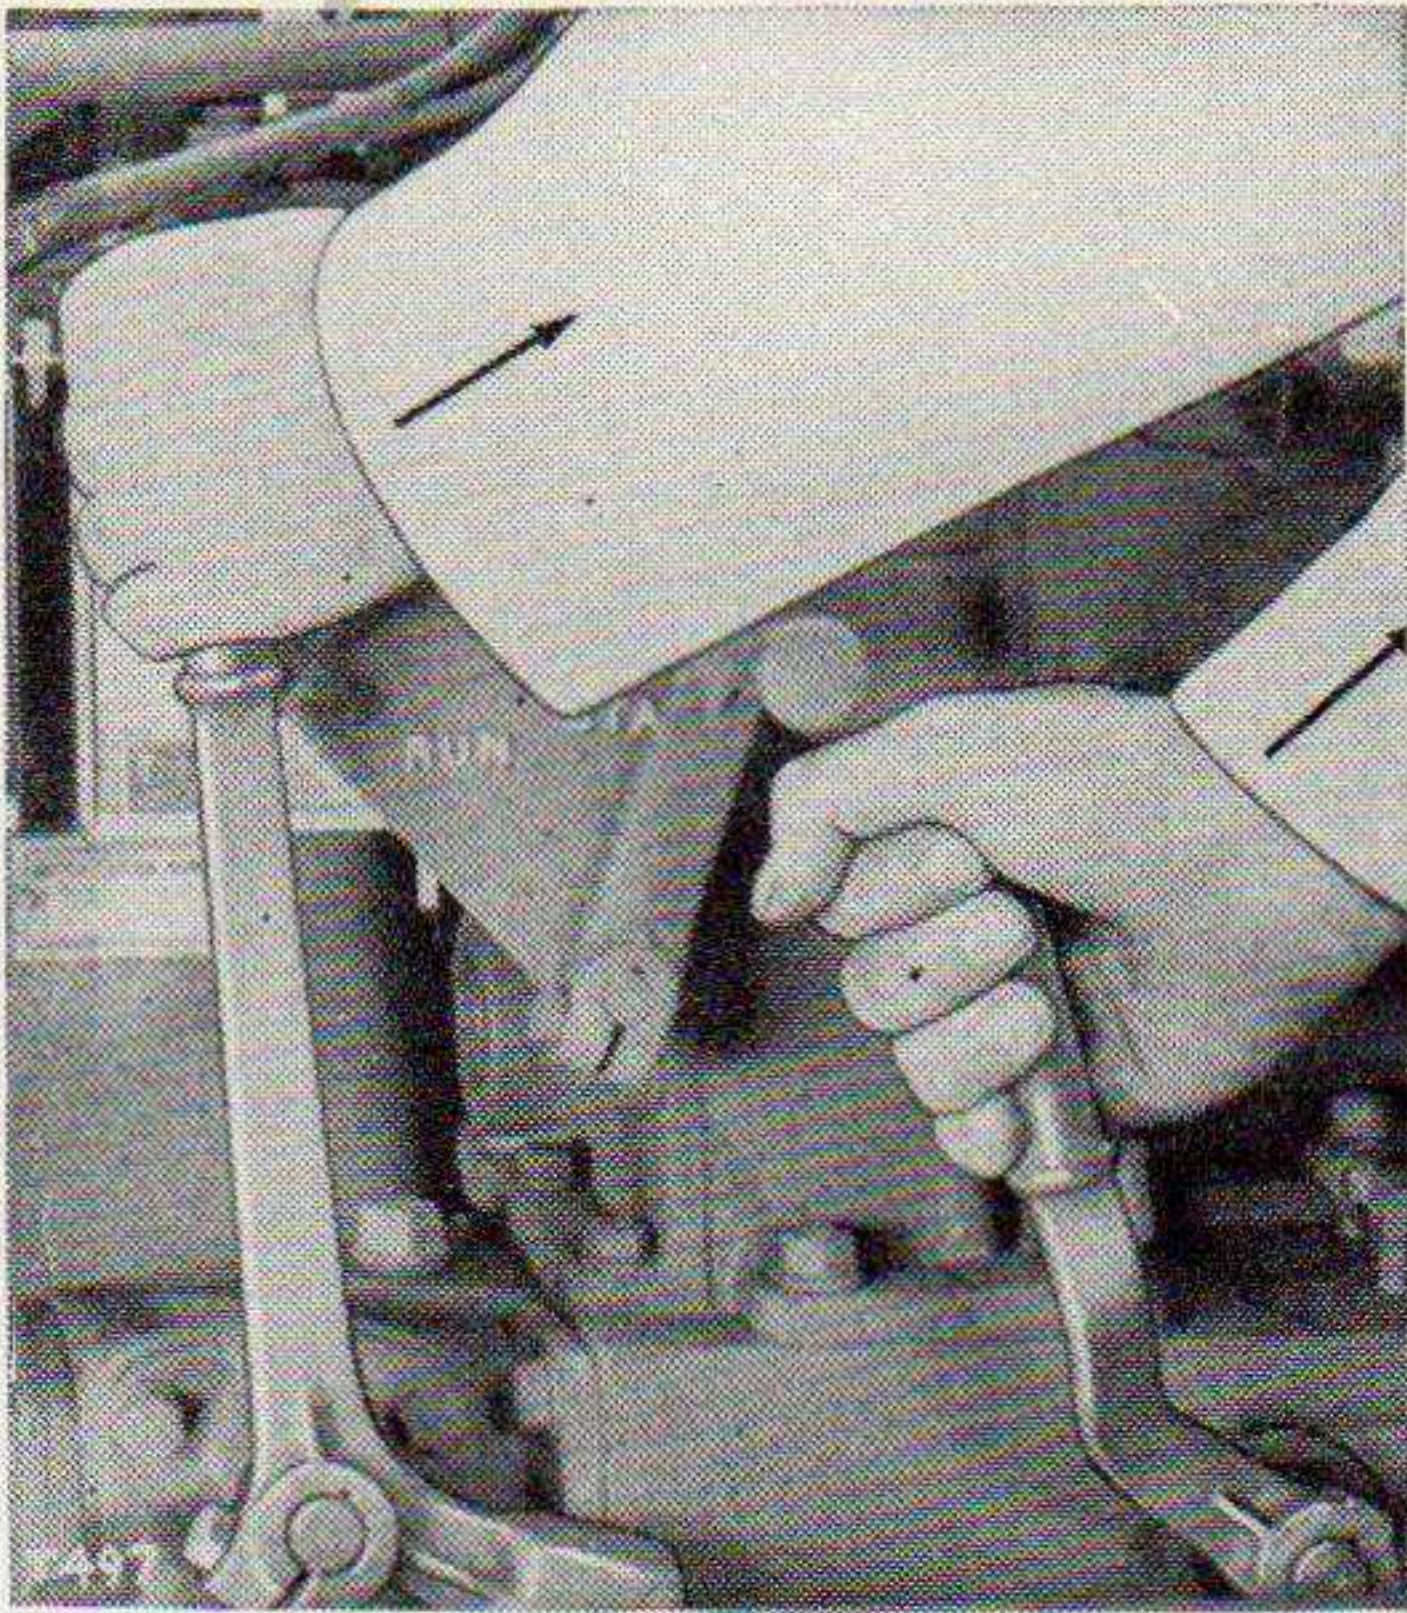

Figure 21. Engaging starter pinion.
- (1) Engage the starter pinion. (See fig. 21.) Pull the starting engine clutch control lever back (toward the flywheel) to stop the pinion from rotating and prevent it from clashing with the Diesel engine flywheel ring gear. At the same time pull up on the starter pinion control lever as far as possible. This engages the starter pinion with the ring gear.
- (2) Push in on the starting engine throttle control. This puts it in the high idle position and the starting engine will run at full governed speed.